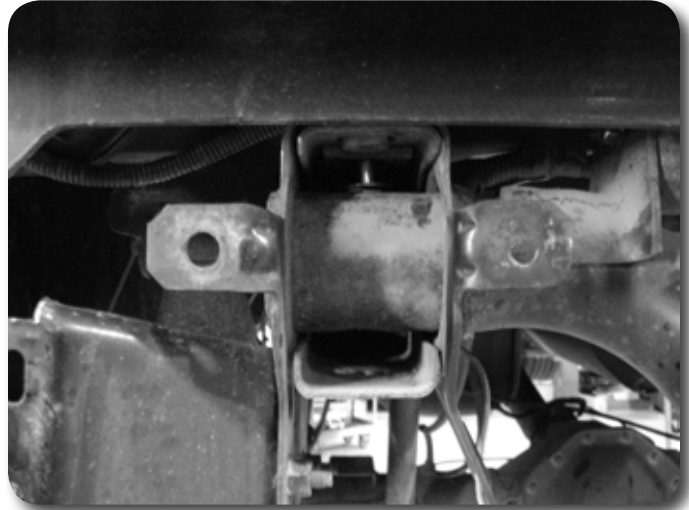

Figure 16
44. The alignment pins at each bumper mount location will need to be removed. Using a cut off wheel, cut off the heads of the studs behind the mount **Figure 16** and punch them out. Remove the factory U-nuts.